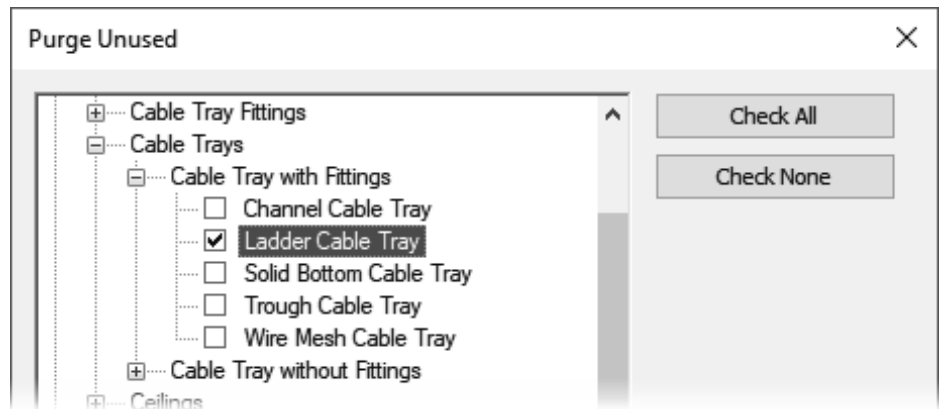

**Figure 2–18**
2. In the Load Family dialog box, locate the folder that contains the family or families you want to load, as shown in Figure 2–18.